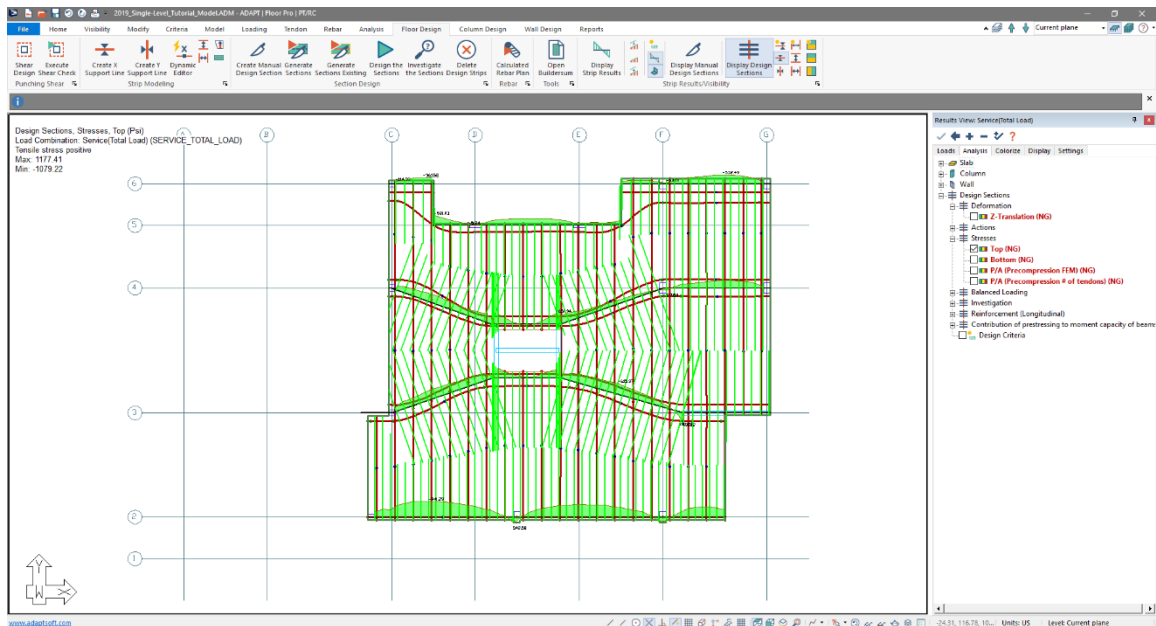
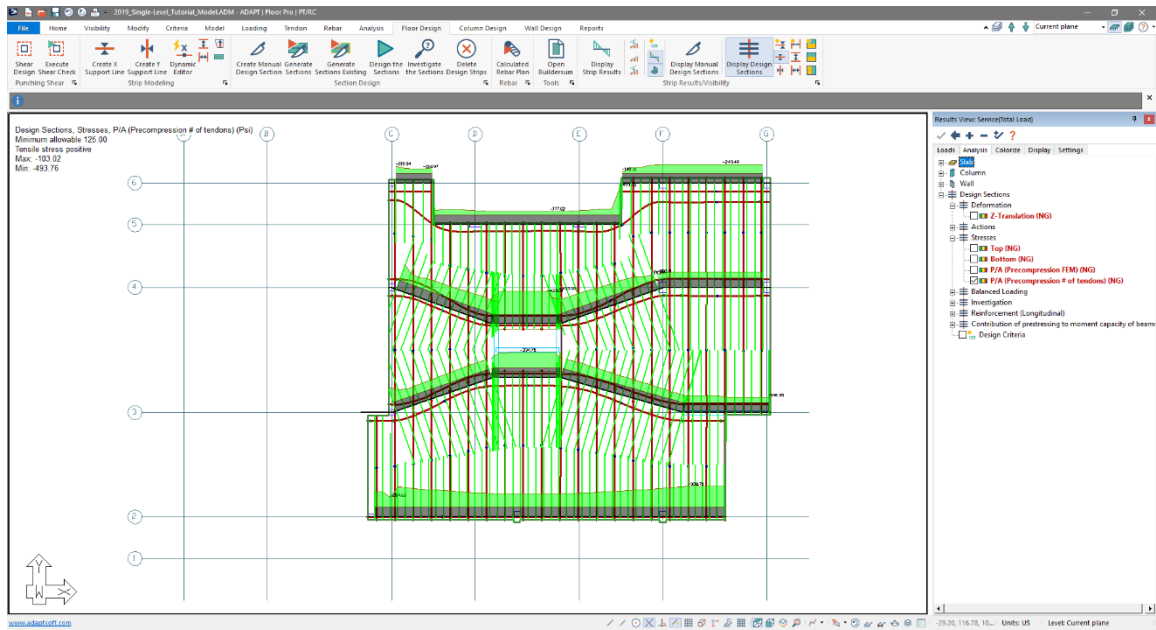

Figure 8-64 – Top Stress X-direction
Figure 8-66 – Precompression # of Tendons X-direction
- When the optimization and design is finished for the banded direction you should be able to review stresses and precompression for the X-direction support lines and see them all passing as shown in **FIGURE 8-64** through **FIGURE 8-66** below.